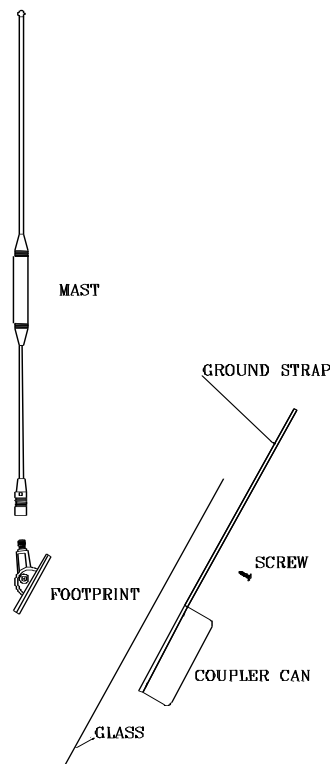

Figure 4 – General Assembly
3. Clean glass with the alcohol pad and adhere coupling box. Clean the outside of the window with the same alcohol pad. Open packet of silane glass treatment and wipe glass to ensure complete coverage. Wipe dry with clean cloth. Remove the adhesive backing on foot and place over the center of the coupling can (Refer to Figure 4 – General Assembly).